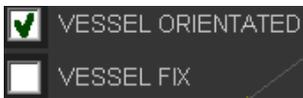

Figure 45: Vessel orientation
2. Select the check box VESSEL ORIENTATED (*Figure 45: Vessel orientation on page 54*).